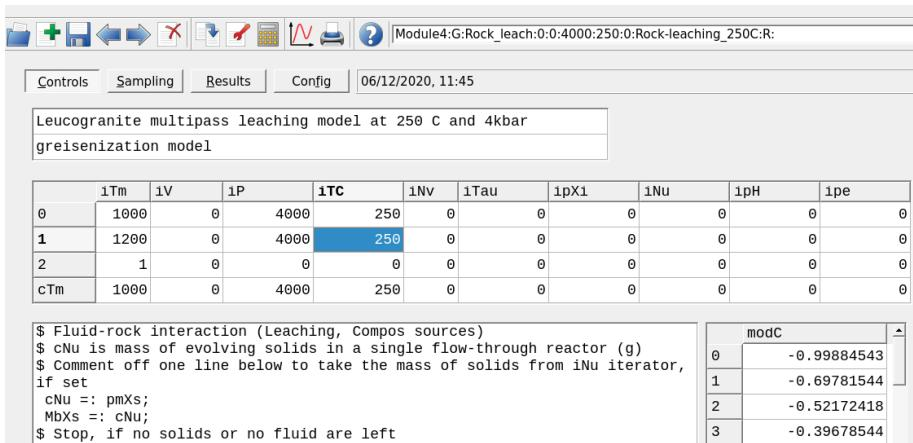

Figure 4.11: Controls window showing the set up for a Process simulation in R mode for the leaching model at 250 °C and 4 kbar.
- In the Controls window change the temperature to 250 °C. Make sure to save the record (Fig. 4.11).